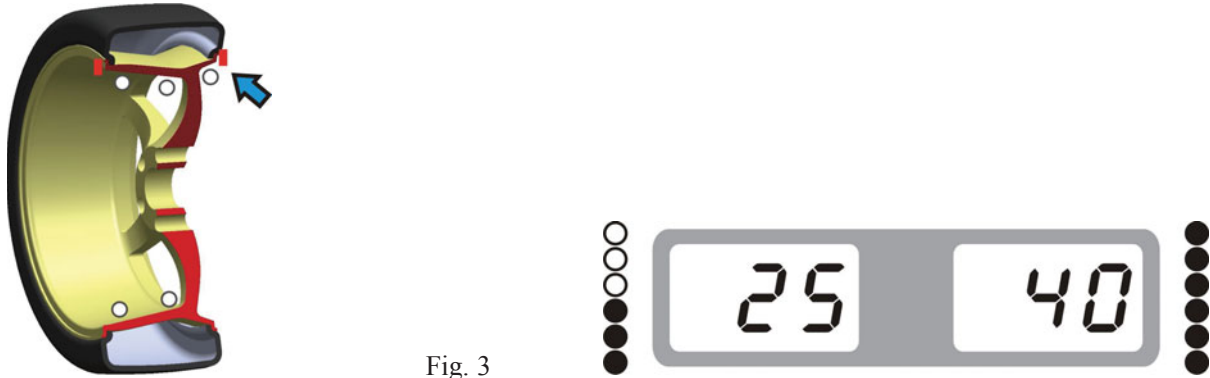

Fig. 3
4.1.6. Anticlockwise moving wheel slowly, the displays with right LED's lit up full indicate the correct angular position where to mount the counterweights (12 o'clock position) outside, as Fig.3, clip the counterweight.